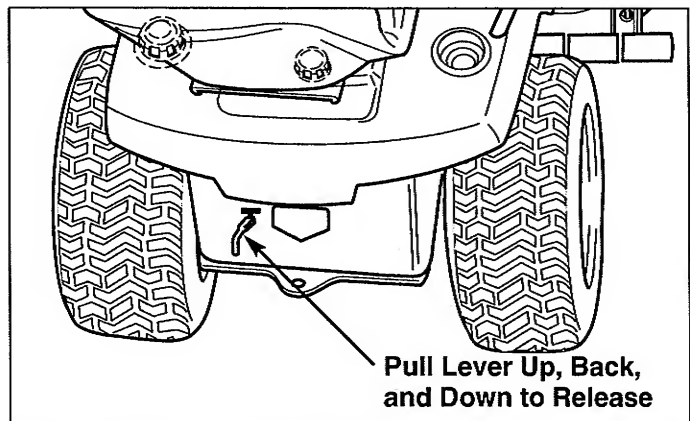

Figure 6. Transmission Release Lever
2. Move the transmission release lever up, pull back approximately 1" (2.5cm), and press down to lock into released position (Figure 6).